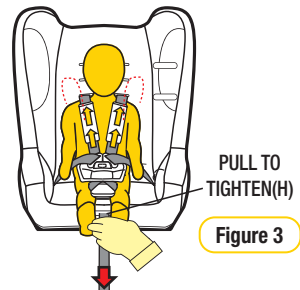

Figure 3
Step 4: Pull harness adjuster strap (H) to take the slack out of the harness until it is a firm but comfortable fit (refer Figure 3)